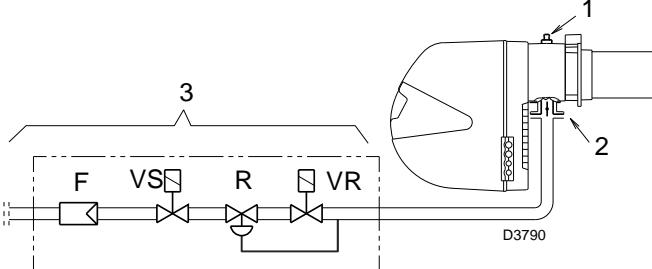

Fig. 21
Pressure of the gas at the test point 1) (Fig. 21), with combustion chamber at 0 mbar;
Pressure loss at gas butterfly valve 2) (Fig. 21) with maximum opening: 90°.
Pressure loss of gas train 3) (Fig. 21) includes:
- subtract the combustion chamber pressure from the gas pressure measured at test point 1) (Fig. 21).
Gas pressure at test point 1) (Fig. 21) = 14.1 mbar
To calculate the required gas pressure at test point 1) (Fig. 21), set the MAX output required from the burner operation:
- read, on the right (column 1), the pressure at the test point 1) (Fig. 21).
Pressure required at test point 1) (Fig. 21).